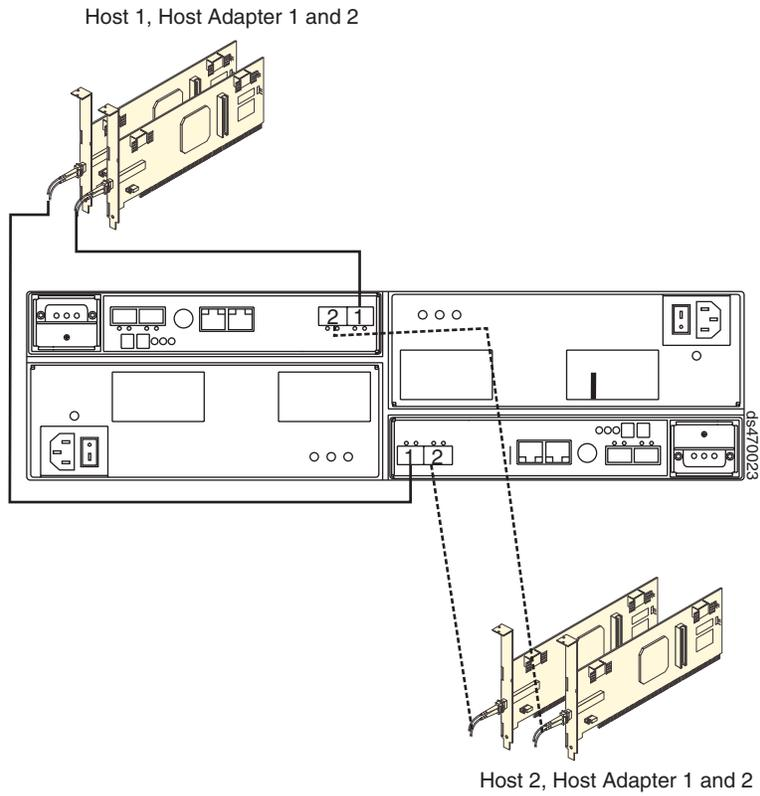
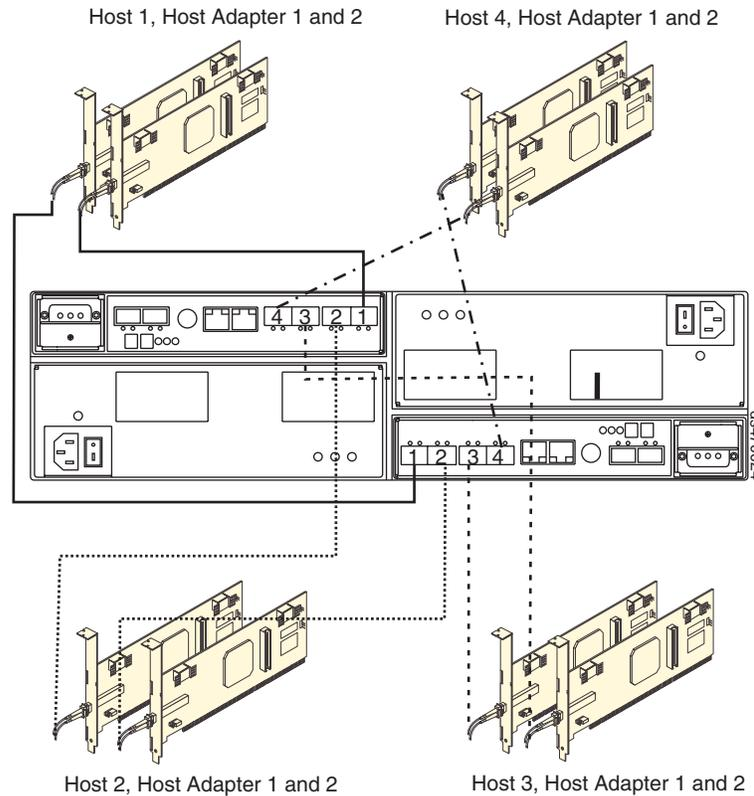

Figure 77. Cabling diagram for two redundant host connections
Figure 78. Cabling diagram for four redundant host connections
- Repeat steps 1 on page 96 and 2 on page 96 for each additional redundant host connection. You can create a maximum of two redundant host connections for the DS4700 Express Storage Subsystem model 70, as shown in Figure 77 on page 98, or a maximum of four redundant host connections for the DS4700 Express Storage Subsystem model 72, as shown in Figure 78 on page 99.
**Note:** Figure 78 on page 99 shows a connection to a fibre channel host bus adapter in the DS4700 Express Storage Subsystem. You can also connect to fibre channel switch ports (not shown).